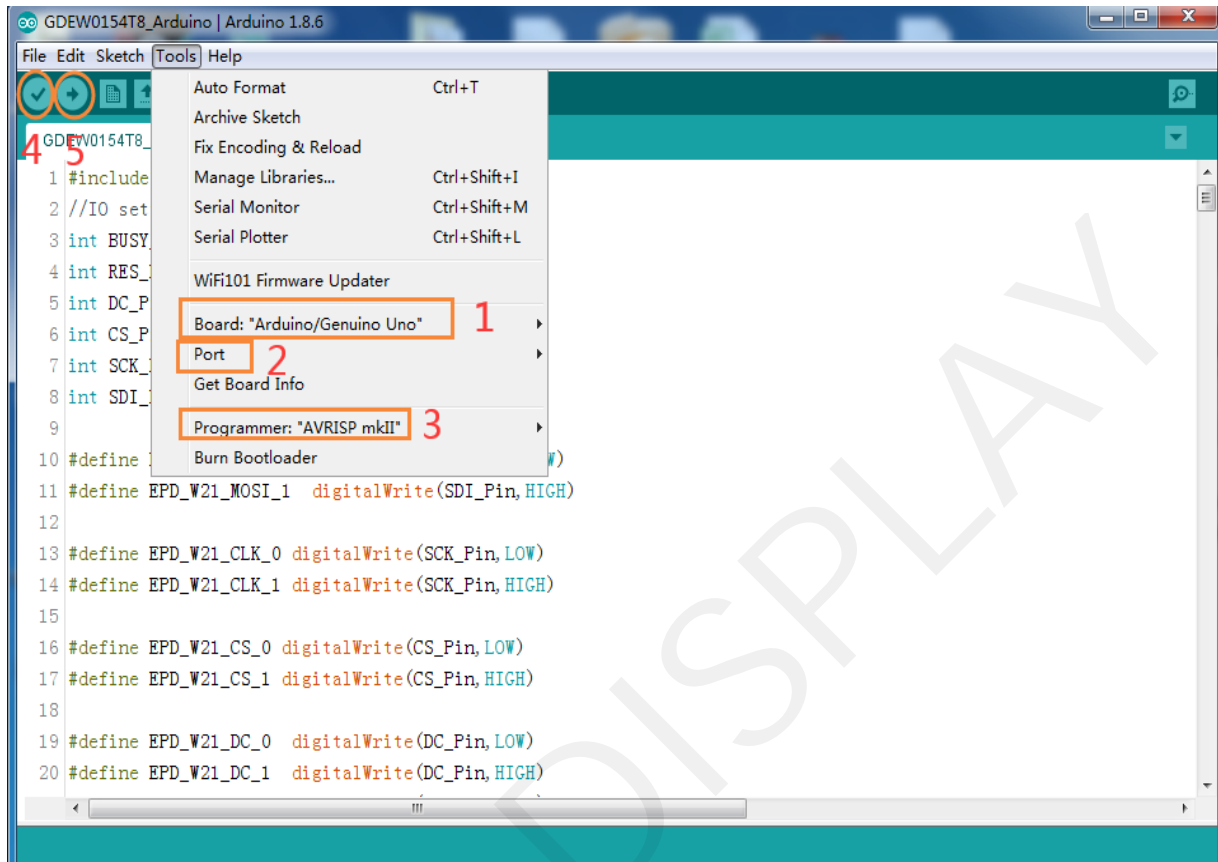

Figure 6 : Steps of downloading program
- 4) Configure in "Tools" in Figure 6.
- 5) Select development board model " Arduino/Genuino Uno" in position 1 of Figure 6.
- 6) Select COM port in position 2 of Figure 6.
- 7) Select programmer model " AVRISP MKII" in position 3 of Figure 6.
- 8) Click position 4  of Figure 6 to compile the program.
- 9) Click position 5  of Figure 6 to download the program to development board.